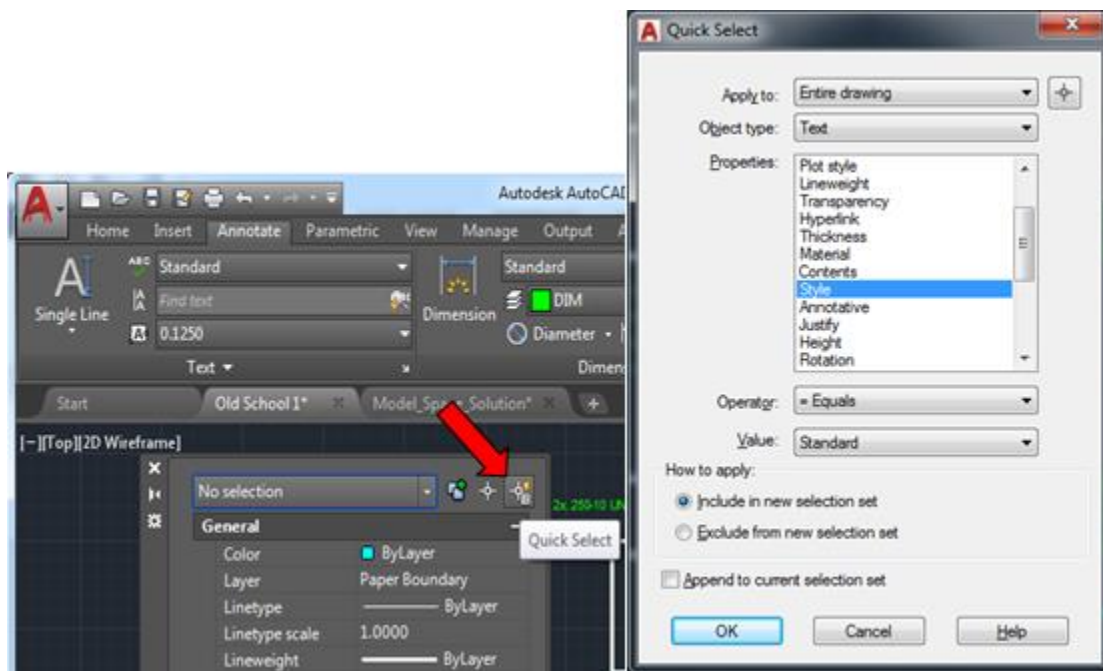

FIGURE 3 QUICK SELECT TOOL FROM THE PROPERTIES PALETTE
10. Switch to the FIT tab and set the Use Overall Scale of to 2.0. See Figure 3 above, if necessary.